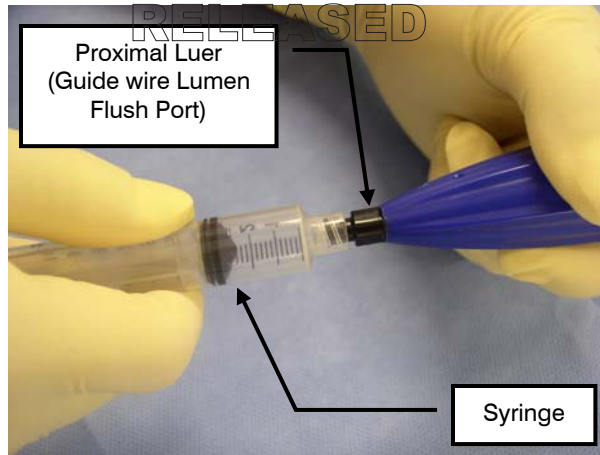

Figure 3: Syringe and proximal flush port
- h. While fixing the proximal luer with left hand, attach either a 10cc, 5cc, or 3cc syringe filled with saline to the proximal luer (guide wire lumen flush port) and apply positive pressure until saline trickles out from the guide wire lumen. (Refer to **Figure 3**)